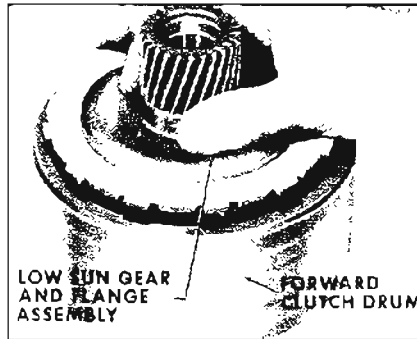

Figure 5-213
2. Remove low sun gear and flange assembly. See Figure 5-213.